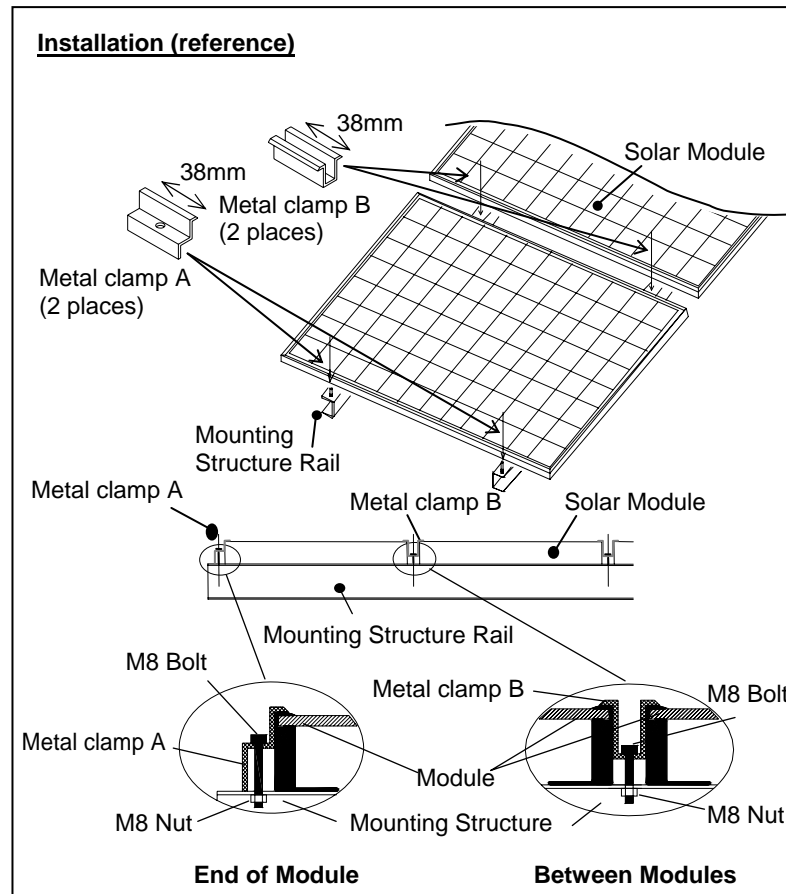

Figure 1. Installation
- SANYO recommends the installation method and mounting profile shown in Figure 1